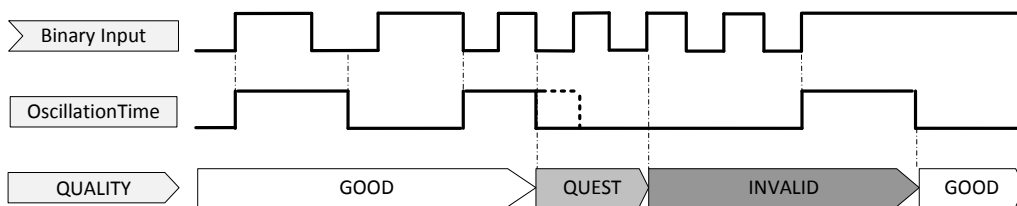

Figure 4.4. Chatter filter.
If this oscillatory behaviour persists for a number of state transitions greater than the value defined in **MaxNumChanges**, the quality of the entity is then set to **INVALID** and no more events are generated for that input as long as the signal is oscillating. If **MaxNumChanges** is equal to the minimum of the setting range (2), the **INVALID** state is immediately confirmed at the same time the input is declared as oscillatory (no intermediate **QUESTIONABLE** state is reported). The entity remains in **INVALID** (or **QUESTIONABLE**) state until its state stops changing for more than **OscillationTime**. The chatter filter is illustrated in Figure 4.4.